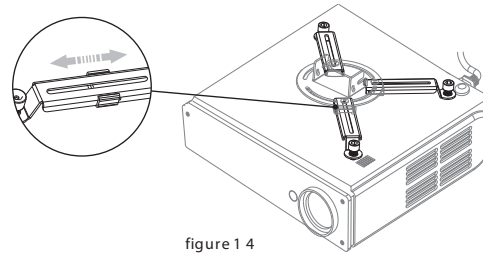

figure 14
2. If there are 3 holes, the installation arms (4-2) need to be taken apart from installation bracket firstly. Connect 3 installation arms (4-2) to the projector, and then connect the installation arms (4-2) to the installation base (4-5). However, the installation base needs to be the center of projector. Figure 14.